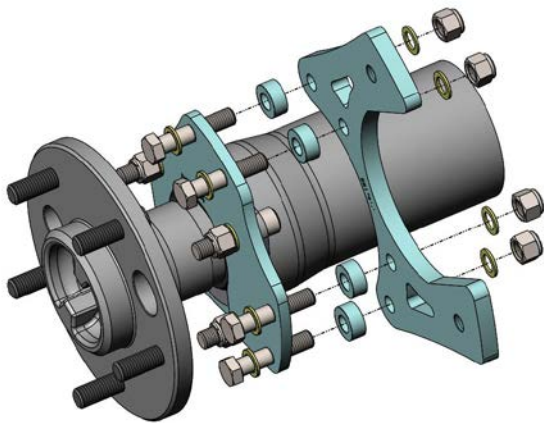
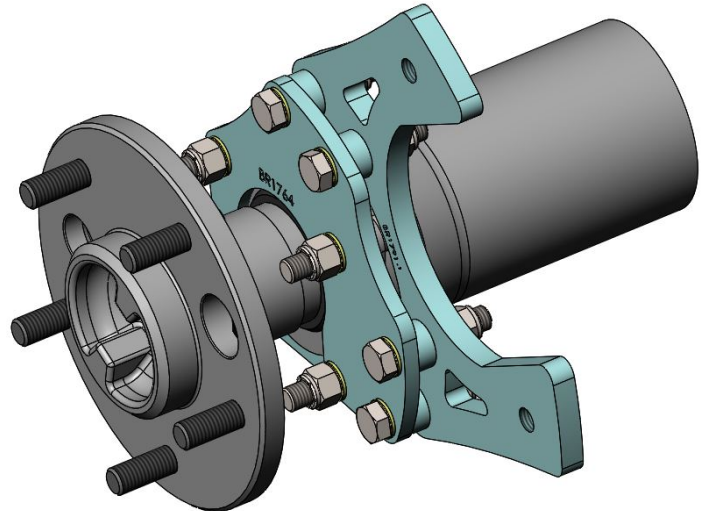
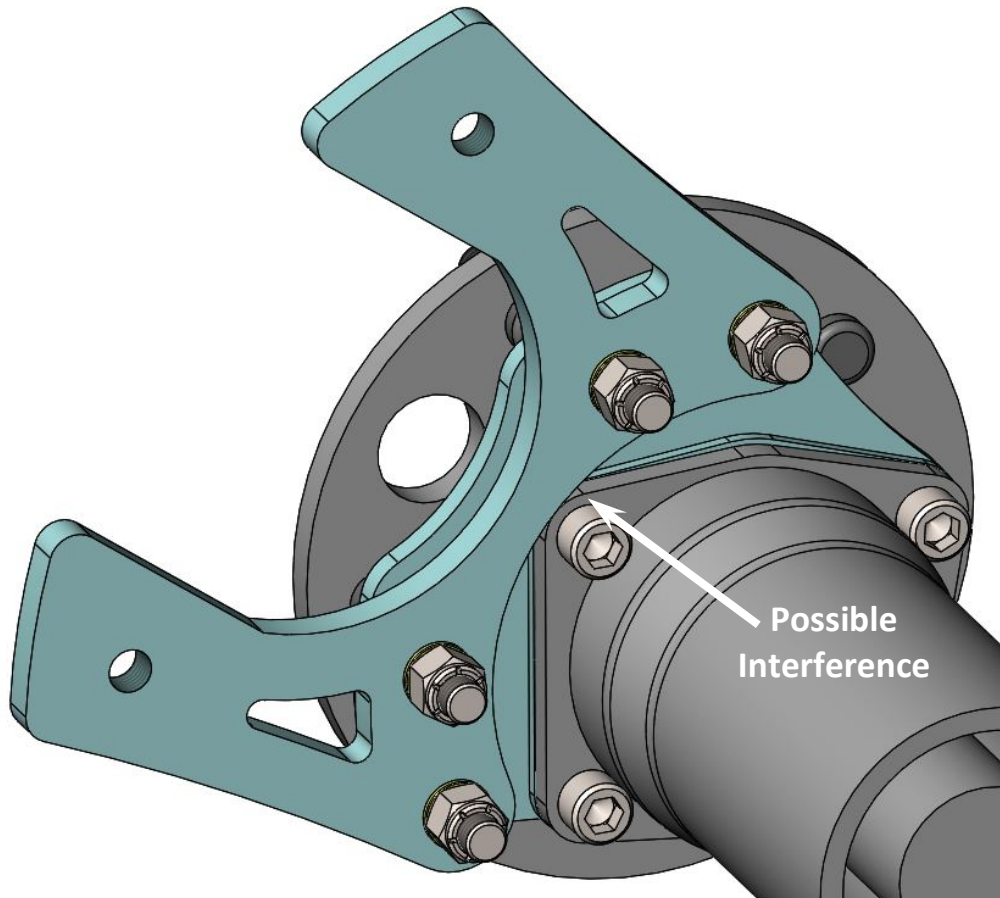

Figure 5 – Caliper Mounting Assembled for Installation
Figure 6 – Completed Assembly
Figure 7 – Possible Flange Interference
8. Using the provided 3/8"-24 x 1-3/4" Grade 8 Hex Head Bolts along with the provided spacers and 3/8" AN Flat Washers, install the Secondary Caliper Mounting bracket to the inboard side of the Primary Caliper Mounting Bracket. The spacers install between the primary and secondary caliper mounting brackets. Once in position, use the 3/8"-24 Nyloc Lock Nuts that were provided and tighten and torque to 40 ft/lbs. Figure 5 below shows the bracket with bolts and spacers assembled. Figure 6 shows the completed assembly. **NOTE:** Due to variations in the axle mounting flange on the rear axle, it may be necessary to remove some material for clearance. Figure 7 below shows the area for possible clearance problems.